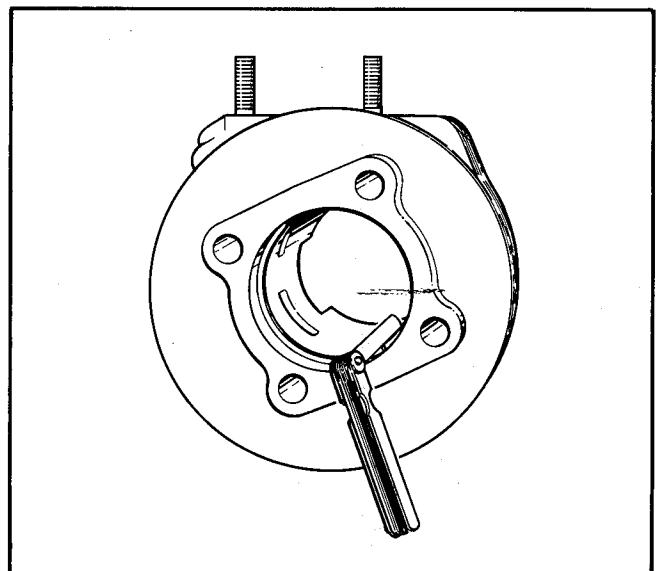

Figure 55 - Ring End Gap
- b. See Figure 55. Check the ring gap clearances as shown. Place a ring in the cylinder, 1/2 in. from the top. Ring gap should be .007-.023 in. If ring gap is less, ring ends could butt against each other when the ring expands. This will cause the rings to break, damaging the cylinder and piston. Ring gaps may be increased by carefully filing excess material from ring ends.